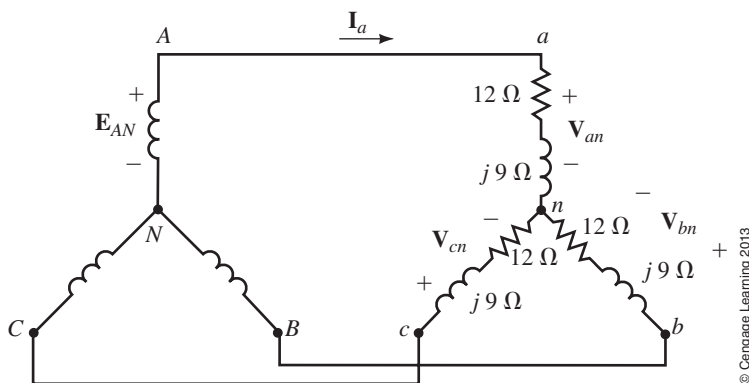

FIGURE 24–47 Balanced system.
- For the load of Figure 24–47, $\mathbf{V}_{an} = 347\ \text{V}\angle 15^\circ$. Determine all line currents. Sketch their phasor diagram.
8. For the load of Figure 24–47, if $\mathbf{I}_a = 7.8 \text{ A} \angle -10^\circ$, determine the phase voltages and line voltages. Sketch their phasor diagram.